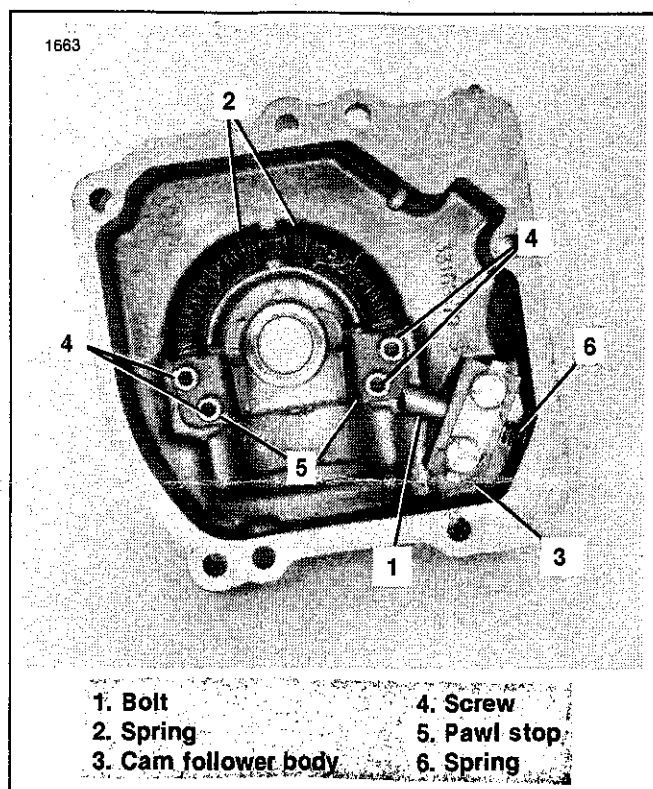

Figure 4. Inside the Shifter Cover
8. See Figure 4. Remove the cam follower (1) and spring (2).
1. See Figure 4. Lubricate the spring (2) with a multi-purpose grease. Install the screws (4), pawl stops (5) from kit and springs (2). Tighten screws to 16 ft-lbs. torque.
2. See Figure 4. Install the new spring in the cam follower body (3), then place cam follower (1) over spring (6).
6. At this time manually shift assembly repeatedly, if end of shifter shaft jumps out of pawl carriers (26, Figure 3), re-adjust pawl stops (5, Figure 4) as described in Step 1.